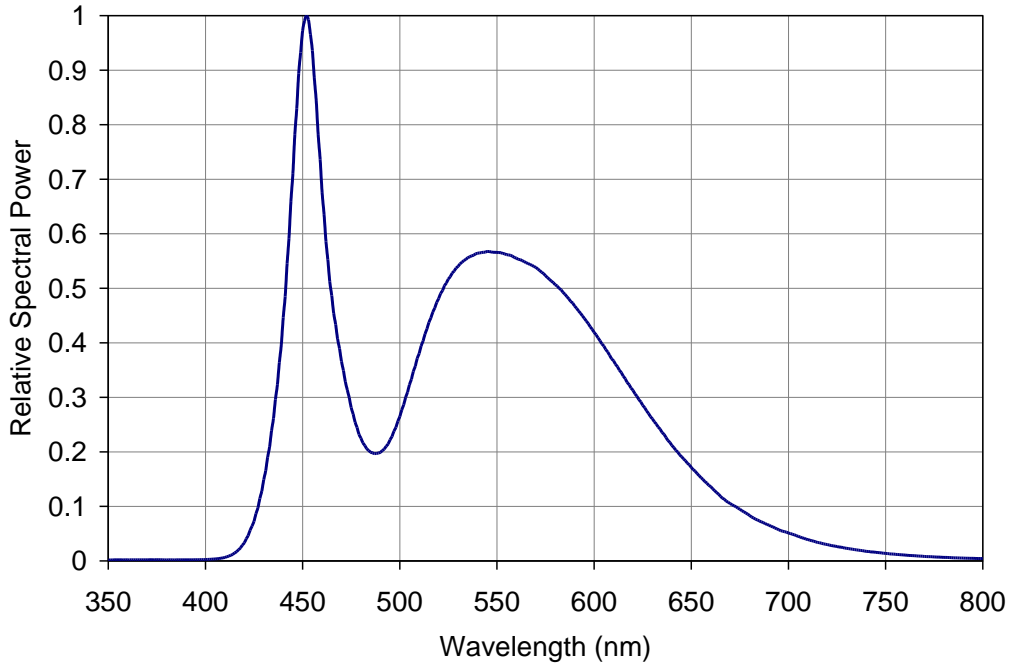

Figure 5: Relative spectral power vs. wavelength @ TC = 25°C
- Solder conditions per JEDEC 020D. See Reflow Soldering Profile Figure 5.